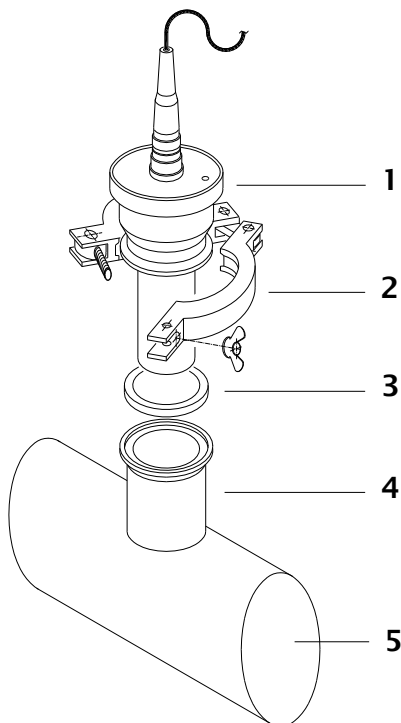

Fig. 3.3.2
Place the gasket (3) in the groove of the KF-40 type flange of the stub and then insert the TX-KFP unit. After insertion of the TX-KFP unit into the stub secure the two flange parts with the clamping ring (see fig. 3.3.2).